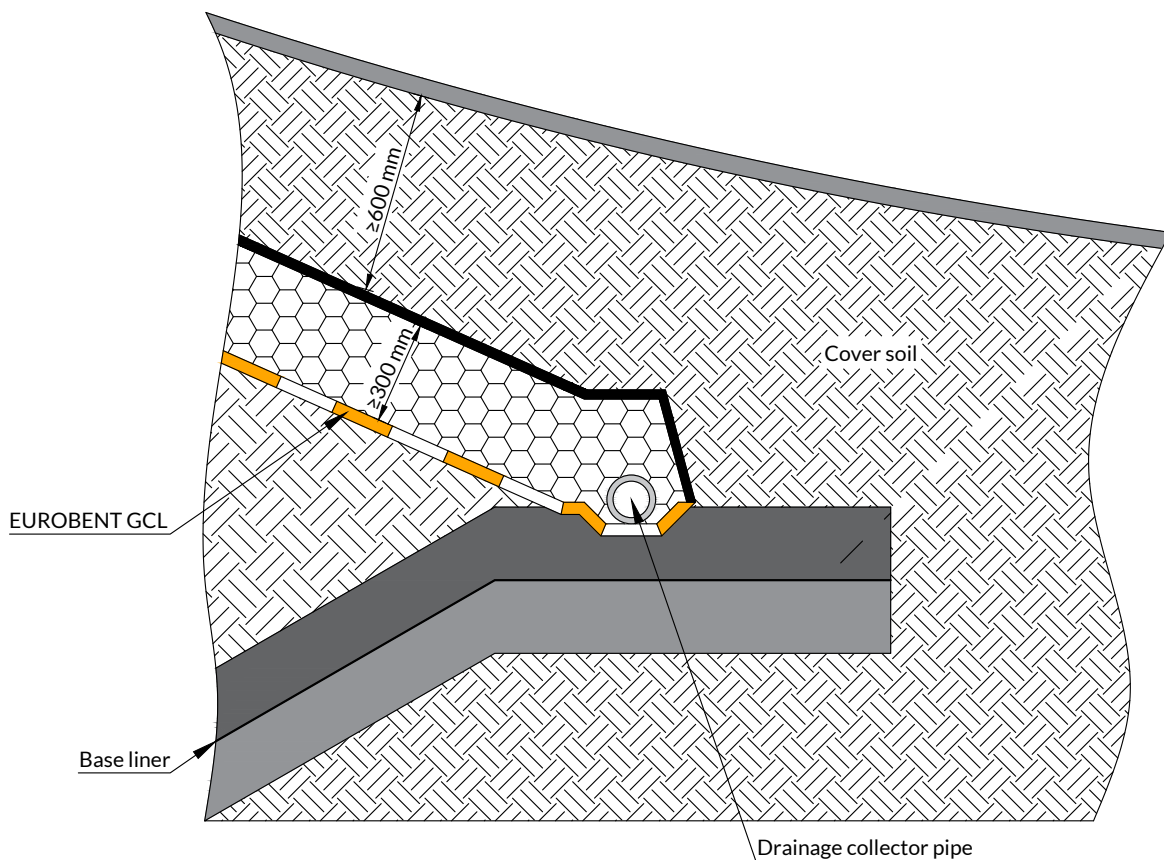

Fig 1.
- Integration with coarse compacted clay liners is shown in Figure 1;